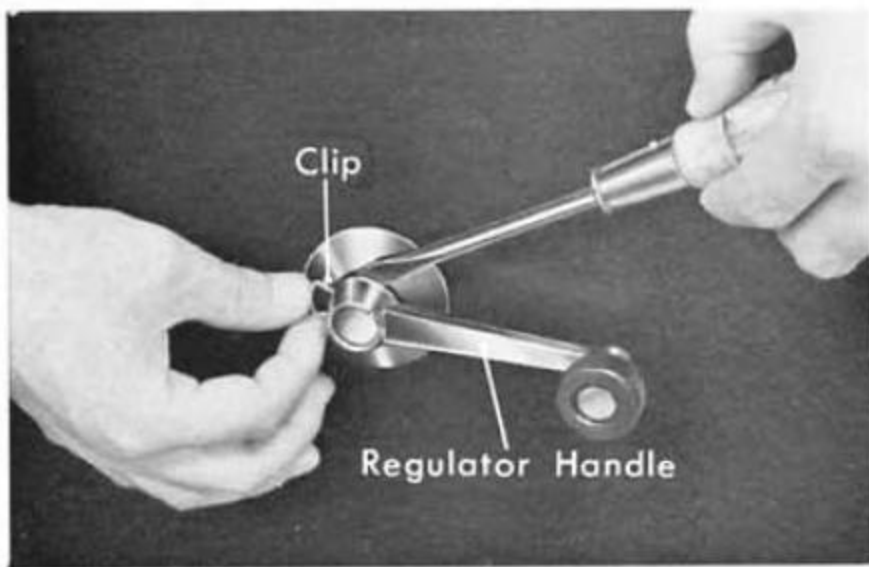

Fig. 17B-2
2. To remove the regulator handle, push back the escutcheon and pull out the clip, regulator handle and escutcheon from the door assembly (Fig. 17B-2).